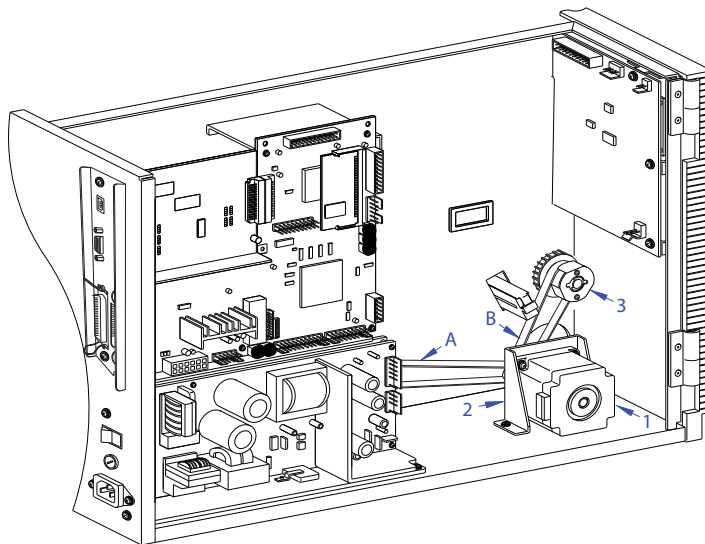

Figure 7-3, Timing Belt Replacement
- 3 Loosen the four screws (not referenced) securing drive motor (1, Figure 7-3) to motor bracket (2).
- 4 Remove timing belt (A) from drive motor (1). To replace the timing belt (A), please refer to Rewinder Timing Belt Replacement.
- 5 Remove worn timing belt (B) from drive motor (1) and pulley (3) of platen roller.
- 6 Apply replacement timing belt (B) to drive motor (1) and pulley (3) followed by timing belt (A).
- 7 Retighten four screws (not referenced) to secure motor (1) to motor bracket (2).